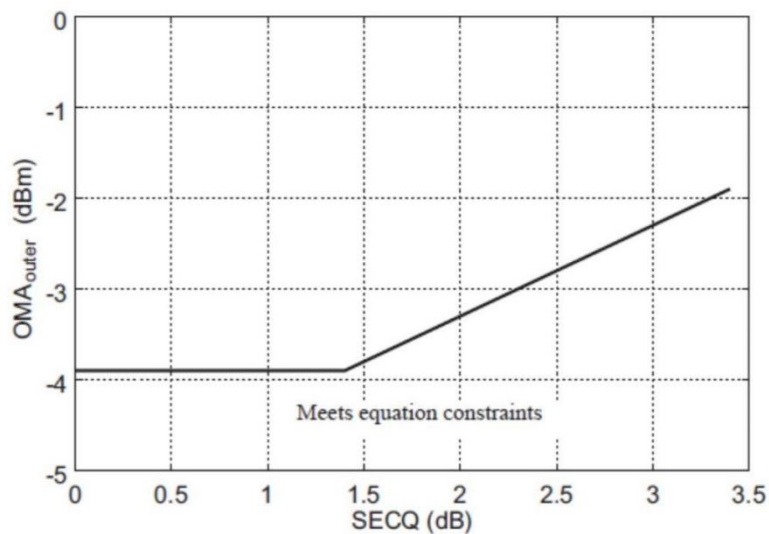

Figure 6 Receiver sensitivity
5. Receiver sensitivity (OMA_{outer}) (max) is informative and is defined for a transmitter with a value of SECQ up to 3.4 dB. It should meet Equation (1), which is illustrated in Figure 6